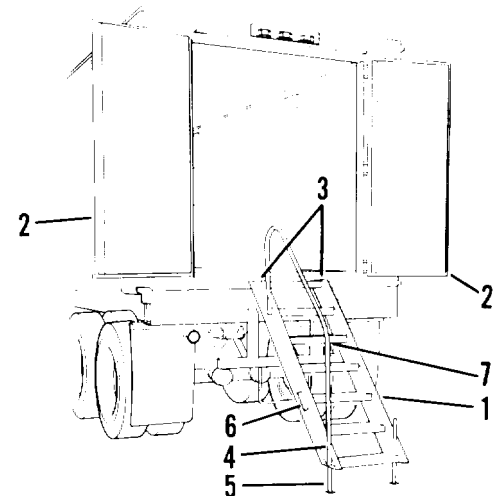

Figure 2-26. Positioning ladder
- (2) With van body doors (2, figure 2-26) open, hook ladder (1) in mounting holes (3) on van.
- (3) Remove pins (4) from adjustable legs (5). Remove adjustable legs (5) from mounting brackets (6).